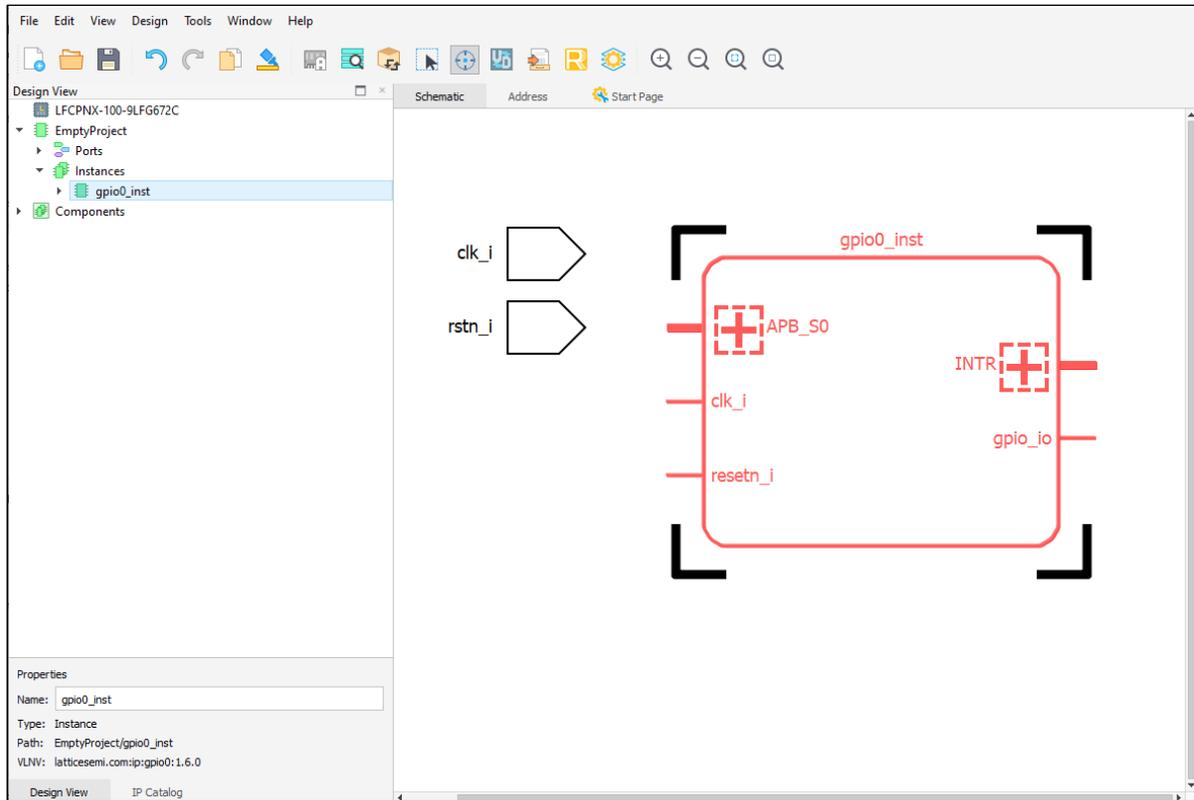

Figure 2.60. Locate Objects
2. Select the object in the List view of the Design View. The selected object is in the center of the Schematic View (Figure 2.60).